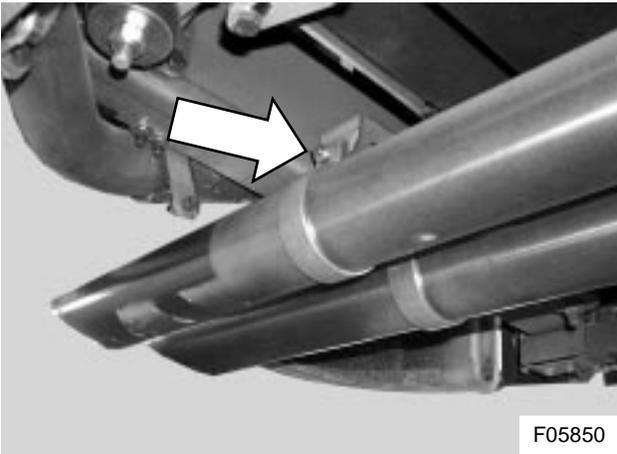

Figure 9: Rear most tailpipe clamp bolts and nuts
- 6) Loosen and remove the two rear most tailpipe clamp nuts and bolts (see Figure 9).